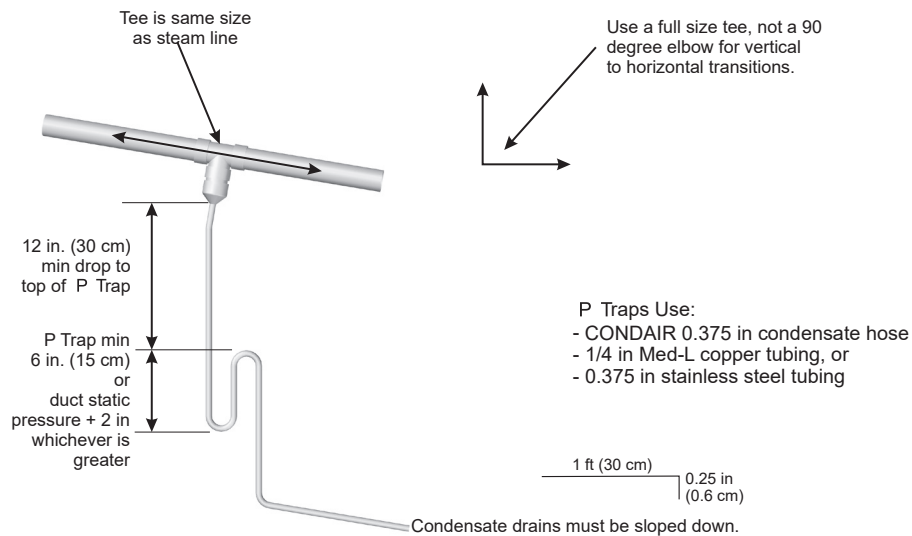

Figure 8: General condensate trap details.
1. Condensate drain lines must have a minimum slope of 1 in./48 in. (1.2°). See Figure 8 for details.
2. Use full size condensate tees in order to collect the condensate and then egress it to the drain. See Figure 8 for details.
3. The trap height should have a minimum of 12" head. The drip should be the greater value of either 6" in height, or duct static pressure plus 2". See Figure 8 for details.
4. Always use 3/8 in. Condaire Condensate Hose (PN 1328840), 3/8 in. stainless steel pipe or 1/4 in. copper pipe for traps in the condensate lines. See Figure 8 for details.